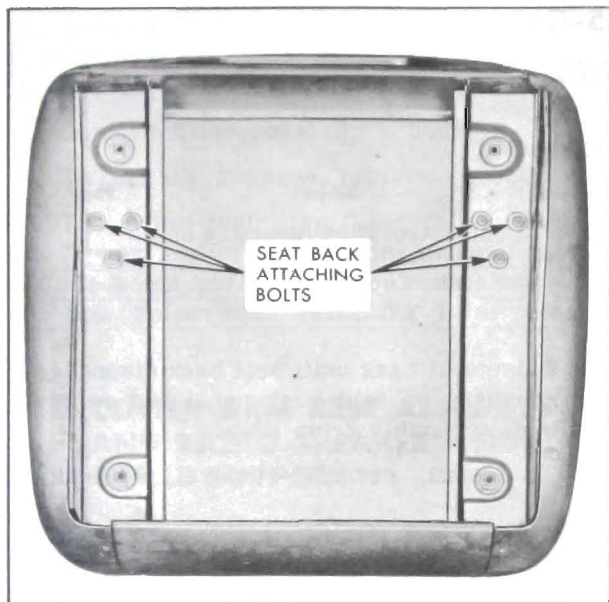

Figure 5-14—Attachment of Bucket Seat Back
2. Remove seat back frame to seat frame attaching bolts (Figure 5-14) and remove seat back assembly from seat.